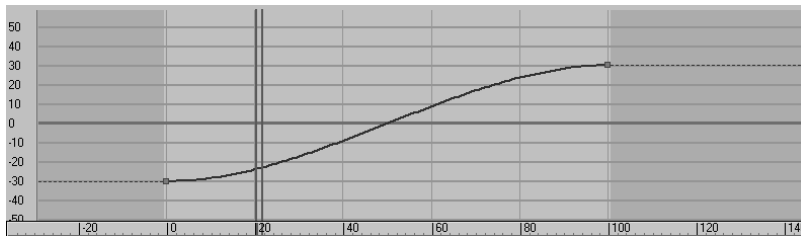

Figure 8.24
5. Select the Parameter Curves Out-of-Range Types button () , and select Constant. This will remove the *Loop* from the X Position Track but won't affect the Z Position track for the ball's bounce (Figure 8.24). Press N to deactivate Auto Key. Play the animation.
6. There is still a little problem. Watch the horizontal movement. The ball is slow at the beginning, speeds up in the middle, and then slows again at the end. It eases in and eases out, as you can see in the curve in Figure 8.24. This is caused by the default tangent, which automatically adds a slowdown as the object goes in and out of the keyframe. In the Curve Editor, select both keys for the X Position and click on the Linear Tangent () to create a straight line of movement so there is no speed change in the ball's movement left to right. Press N to deactivate the Auto Key. Figure 8.25 shows the proper curve.